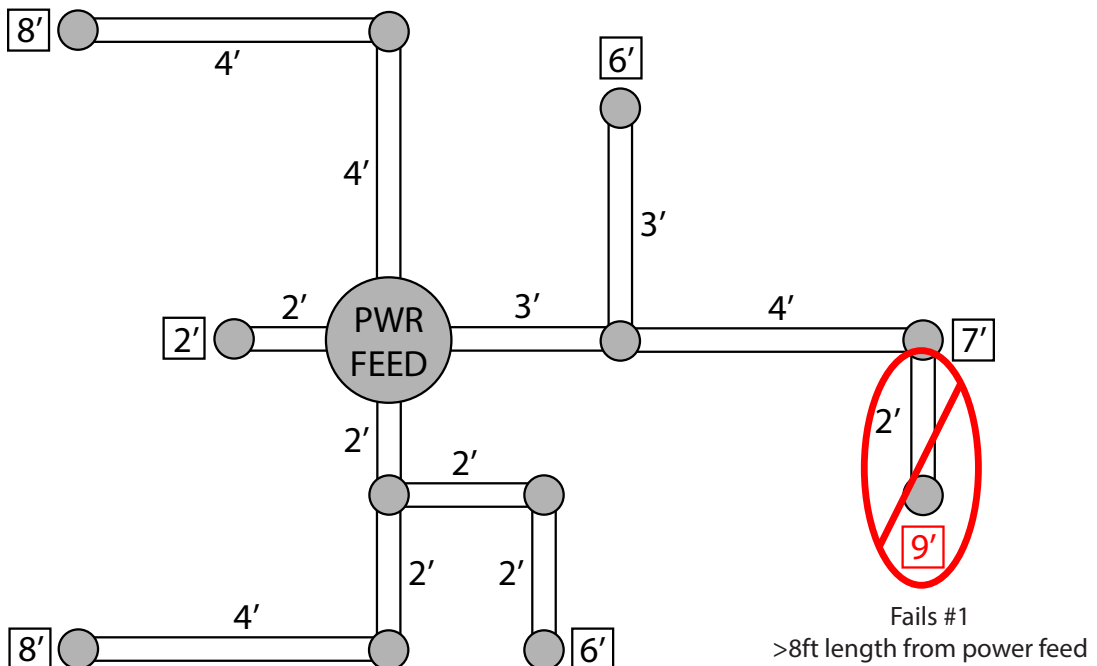

Fig. 1
1. Do not exceed 8ft total Luminaire length from a power feed in any direction (Fig. 1).